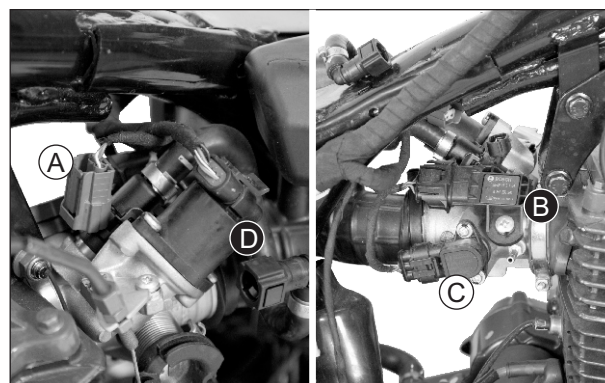

Fig. 4.8
- Disconnect all the sensors in throttle body (A)fuel injector sensor, (B)T-map sensor, (C)throttle position sensor, (D)idle air control valve. (Fig. 4.8)